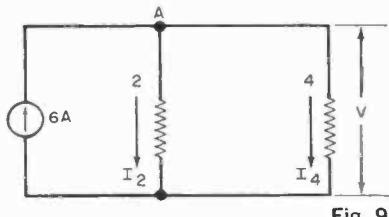

Fig. 9
**E. Parallel Circuits.** A parallel circuit is a network where the voltage across each element is the same (Fig. 9).
**Ex. 10.** For the parallel circuit in Fig. 9, determine (a) the voltage across each resistor and (b) the current in each. **Sol.** (a) Applying Kirchhoff's current law at node A, we have:  $-6 + V/2 + V/4 = 0$  or  $6 = V(2 + 1)/4 = 3V/4$ ; and  $V = 8\text{V}$ . (b)  $I_2 = 8/2 = 4\text{A}$ ;  $I_1 = 8/4 = 2\text{A}$ .